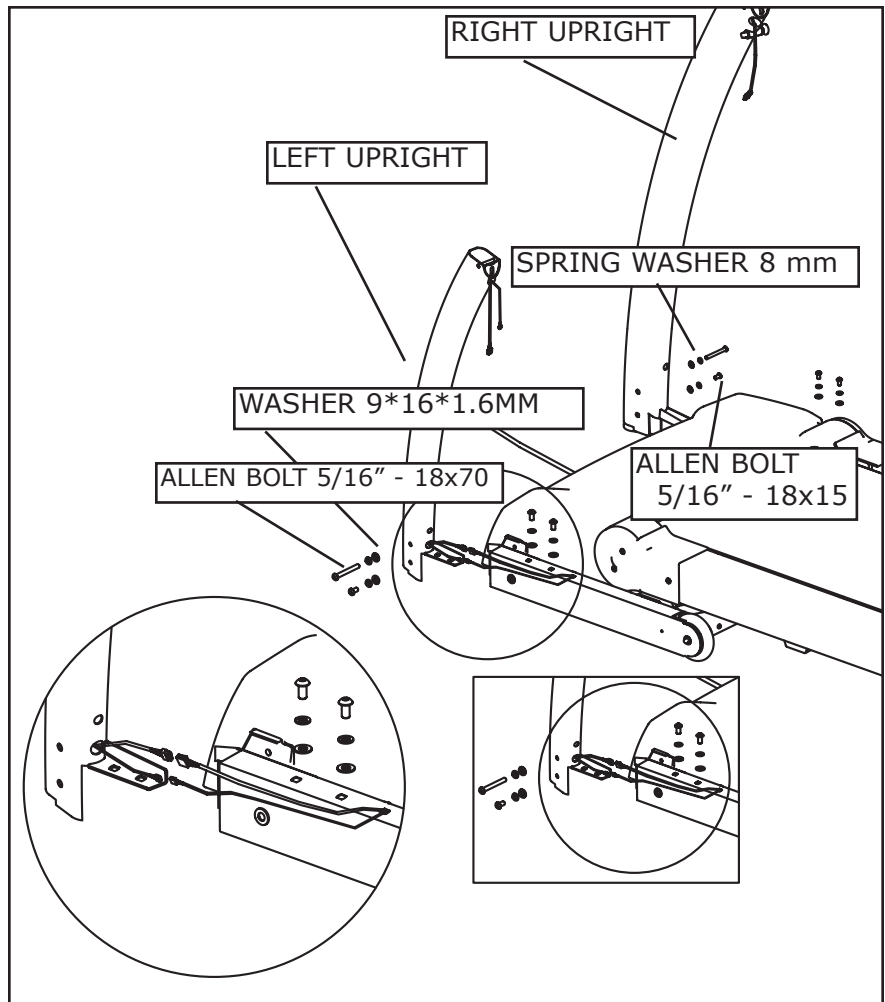

Figure 1: Console Harness Location
2. Connect the console harness together. One side of harness is located near the motor cover on the bottom left side. The other end is located inside the Left Upright assembly. See Figure 1 and 2. Pull the wiring harness from top of upright tube making sure harness connectors are pulled into large hole at bottom of upright.
3. Install the Left and Right Uprights to the treadmill base frame by inserting the upright connecting bracket into base frame as seen in Figure 1, using Allen Bolt 5/16"-18 x 70 (Qty. 2), Spring Washer 8 mm (Qty. 4), and Washer 9*16*1.6 mm (Qty. 4).